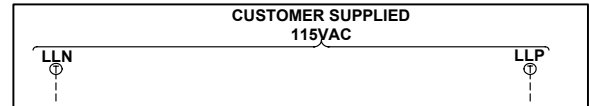

Figure 3-2
- A. The first circuit common to all drive types is an independent single phase supply for the cab lighting circuit. Usually 120 VAC for North America and 230 VAC for the remainder of the world. This circuit should be a 15 amp fused circuit. [See Figure 3-2.]